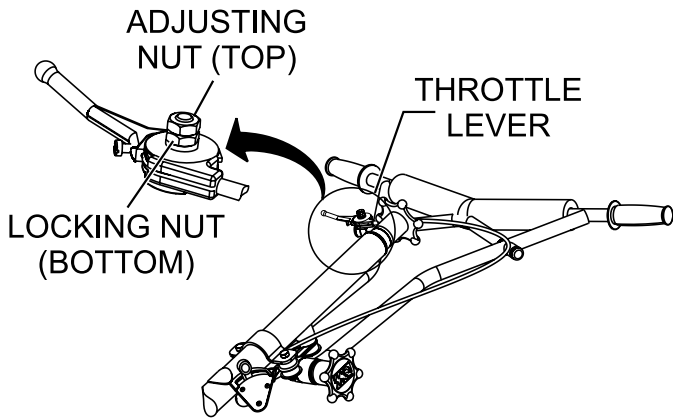

Figure 7. Throttle Cable Receiver Adjustment
3. Connect the throttle cable to the engine (Figure 7). There should be a piece of wire installed on the trowel to show where to route the throttle cable.
7. Adjustment of the throttle cable tension may be required. If so, loosen the **adjusting nut** (top nut) on the throttle cable receiver (Figure 7) and loosen or tighten the **locking nut** (bottom nut). Retighten **adjusting nut**.